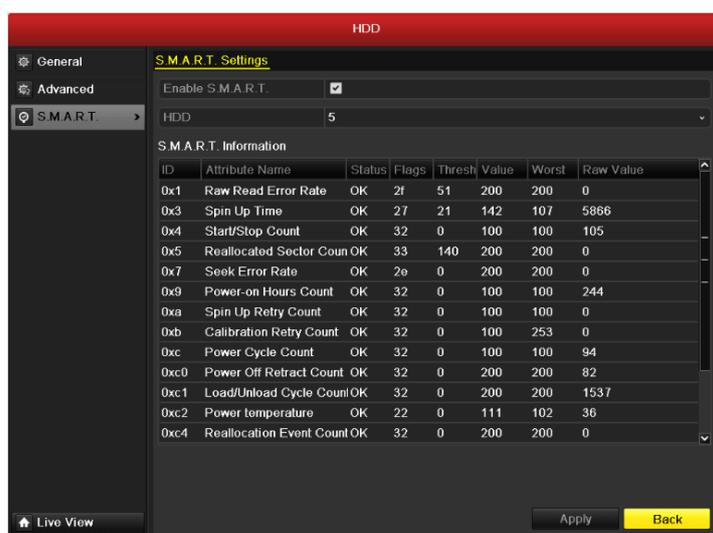

Figure 10.22 S.M.A.R.T Settings Interface
3. Select the HDD to view its S.M.A.R.T information list, as shown in Figure 10.22.